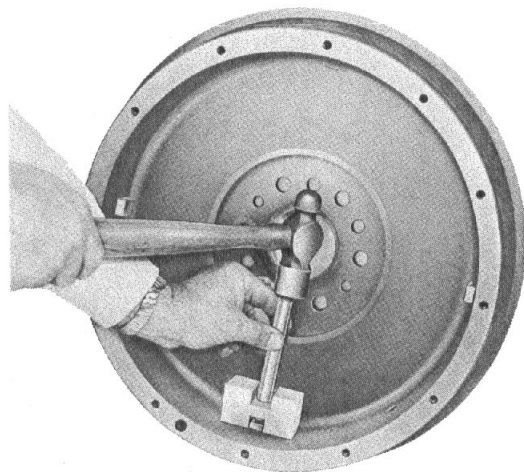

Fig. 3 - Driving Pin Alignment Gauge.
(1) Inspect the four intermediate plate driving pins in flywheel. *Make certain that shanks of pins are press fitted into flywheel rim, and that the heads are squarely aligned with the friction face.* NOTE: To facilitate the alignment of the driving pins refer to Fig. 3 which illustrates intermediate plate driving pin alignment gauge #T10670A in use.